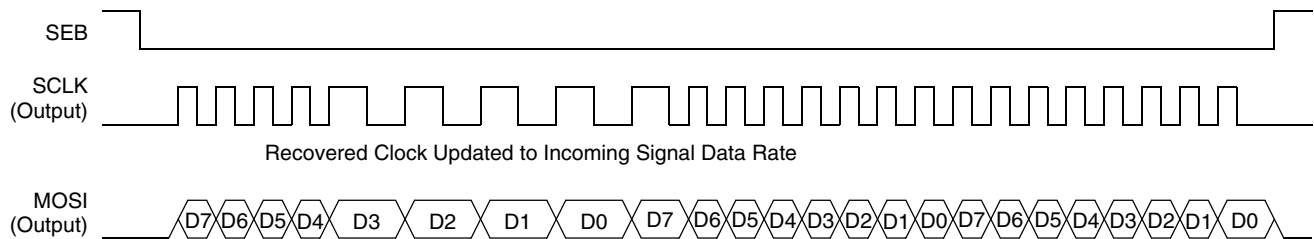

Figure 14. Typical Transfer in Receive Mode with Data Manager
1. DME = 1: The data manager is enabled. The SPI is master. The MC33596 sends the recovered clock on SCLK and the received data on the MOSI line. Data are valid on falling edges of SCLK. If an entire number of bytes is received, the data manager may add an extra byte. The content of this extra byte is random. If the data received do not fill an entire number of bytes, the data manager will fill the last byte randomly. Figure 14 shows a typical transfer.